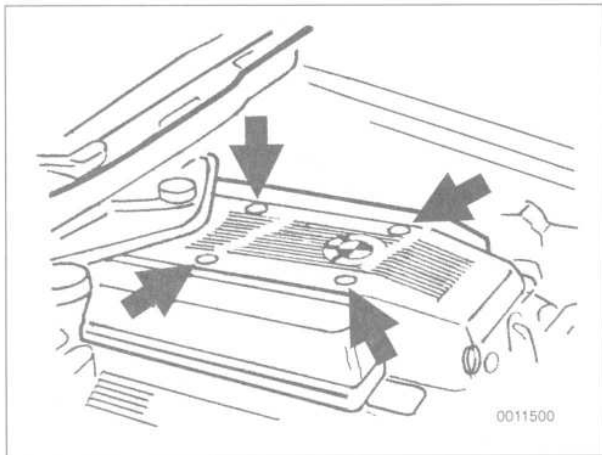

Fig. 11. Remove top engine cover by prying out plugs (arrows) and removing nuts from beneath plugs. Removal of plastic covers from cylinder head is similar.
- Pry out plugs from covers. Remove nuts and bolts from beneath plugs. Lift off covers, removing center cover first. See Fig. 11.